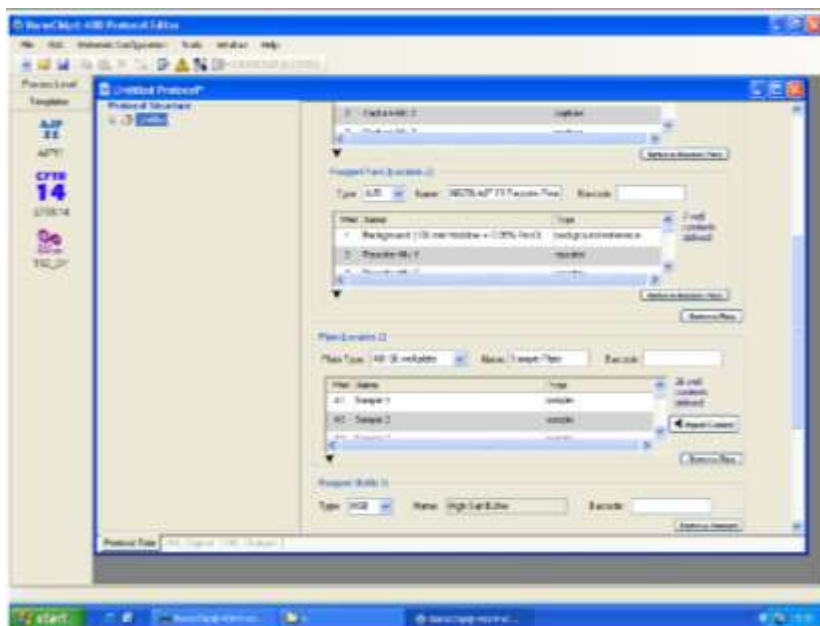

Figure 5. Protocol Editor Screen
7. Click on the run name you entered earlier (located under protocol structure), if no name was inserted it will appear as "untitled". **Scroll to ‘Plate location 2’** (See figure 5). Here you can either write down your samples names or import it from an excel sheet. LIS connection is also optional.